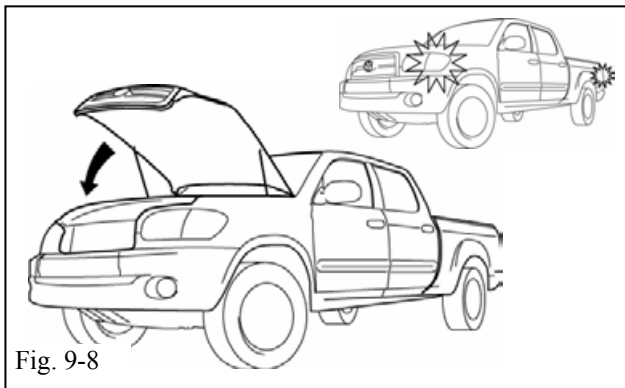

Fig. 9-8
- (k) Close the Hood. (Fig. 9-8)
- (1) The Hazard Lights flash once. Registration is complete.